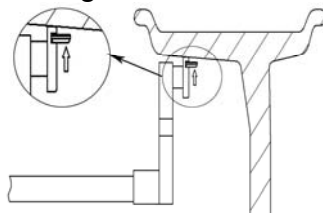

Figure 10-11
10.3.8 If is follow 7-7 input date of rim ,press STOP key and ALU key, all middle of LED display - - -,insert correspond counterweight into the scale head slot, slowly spin wheel, when inside counterweight position indicator light(fight 5-1(8)) all on, draught scale, when inside counterweight position indicator light(fight 5-1(2)) all on, turn scale, stick counterweight on the rim, ect figure 10-11;
10.3.9 Insert correspond counterweight into the scale head slot, slowly spin wheel, when outside counterweight position indicator light(fight 5-1(9)) all on, draught scale, when inside counterweight position indicator light(fight 5-1(4)) all on, turn scale, stick counterweight on the rim, ect figure 10-11;
10.6.5 Slowly spin wheel, when outside counterweight position indicator light (figure 5-1(9)) all on, find first position, draught scale, when outside counterweight position indicator light (figure 5-1(4)) all on, turn scale, stick counterweight on rim (ect figure 10-11);
10.6.6 Slowly spin wheel, when outside counterweight position indicator light (figure 5-1(9)) all on, find second position, draught scale, when outside counterweight position indicator light (figure 5-1(4)) all on, turn scale, stick counterweight on rim (ect figure 10-11).